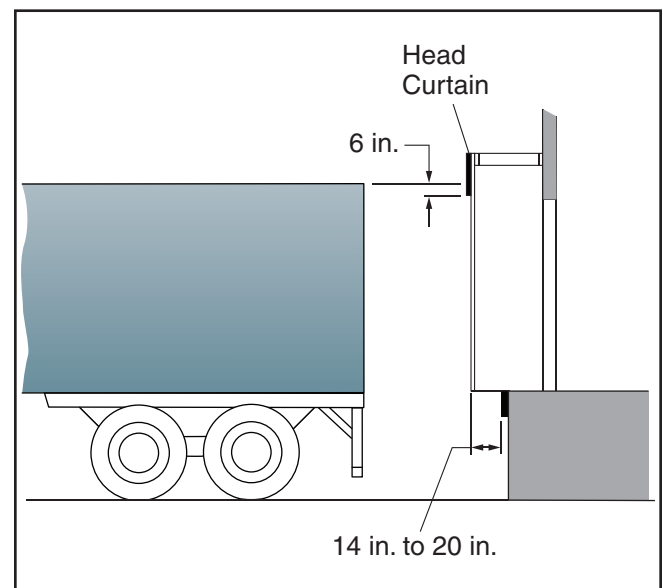

Figure 78
- Position of bottom edge of head curtain – 6 in. below height of the lowest expected truck (Figure 78)